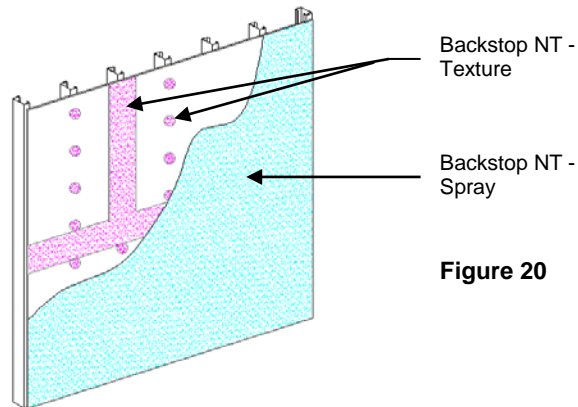

Figure 20
- 1) Backstop NT - Spray material should be applied in a uniform, continuous film at the recommended coverage rate free of voids and pinholes – Figure 20. **NOTE: Sheathing substrates with a surface texture or high porosity will require additional material.**